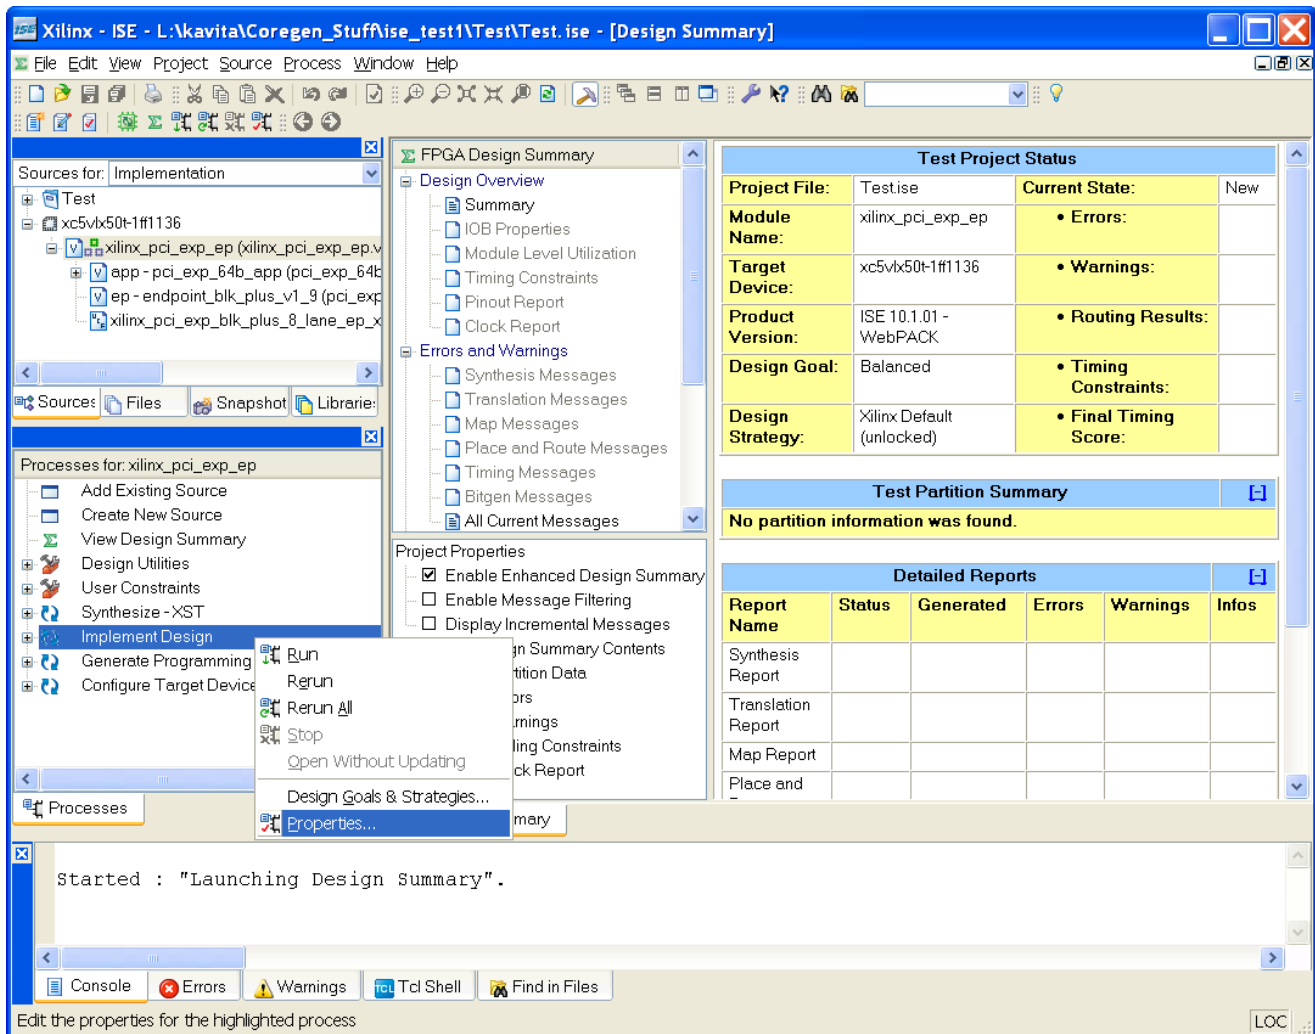

Figure 3-11: Processes Window: Implement Design Properties
10. In the Processes window, right-click Implement Design process and select Properties, as shown in Figure 3-11. The Process Properties dialog box appears.